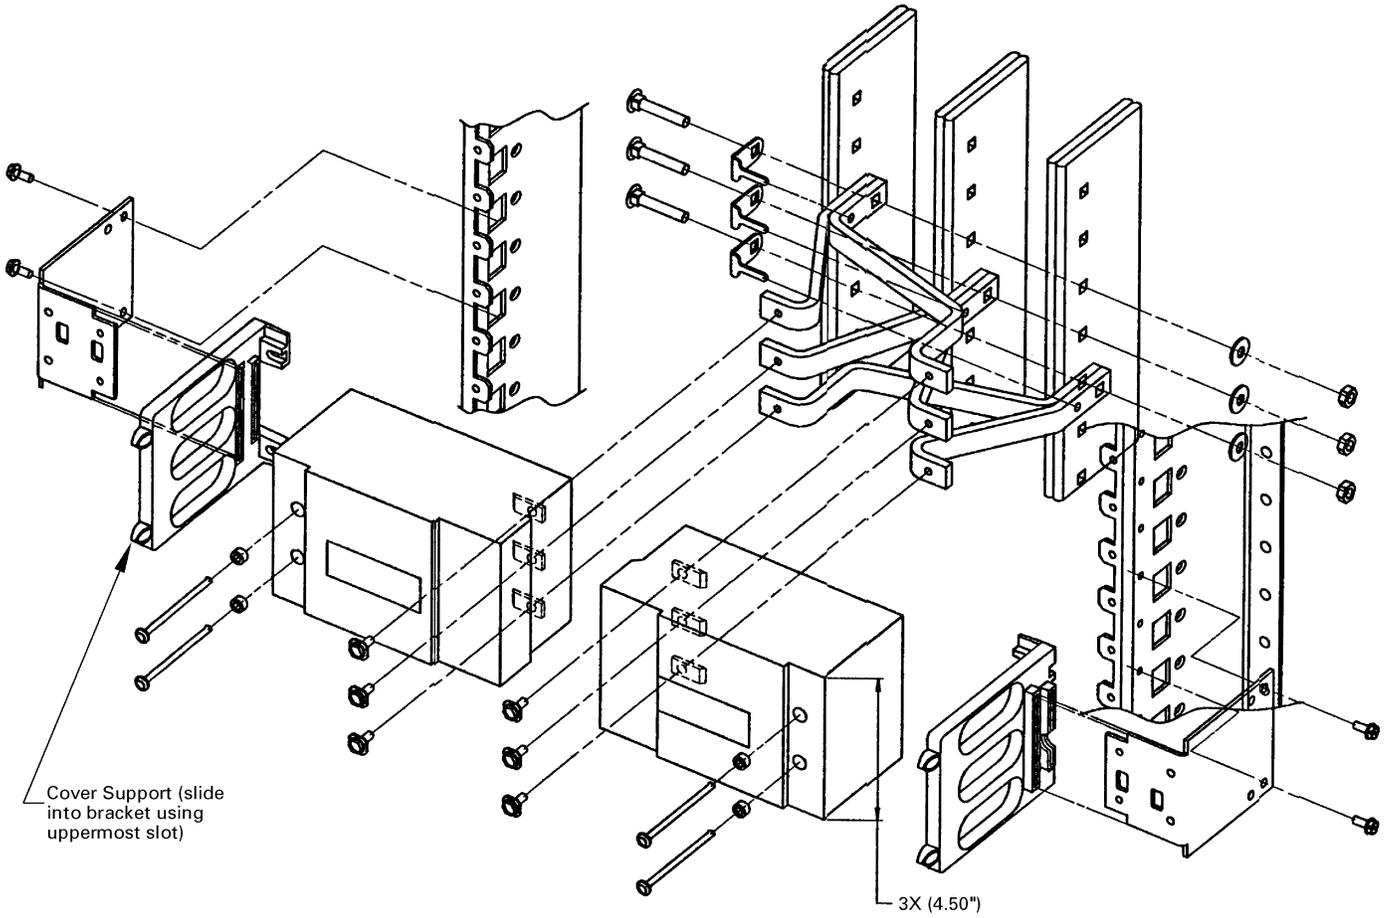

Figure 1. Bolt-on circuit breaker assembly exploded view.
- 1. Install Circuit Breaker Straps.** Install the straps beginning with the outermost (A and C) poles, as shown in Figure 1. Align the straps [1, 2] back to back, as shown. Slide the square hole in the antiturn clip [12] over the corresponding square shank of the carriage bolt [3], then insert the pin section of the clip through the circular hole in the strap assembly, with the carriage bolt extending through the square hole immediately below. Fasten the complete strap assembly loosely to the vertical bus, using a Belleville washer [4] and nut [5]. Repeat the procedure for the opposite pole, leaving 1.38 inches (1X) of space for the center pole (see Table 2 for one- and two-pole connection combinations). Align the center-pole straps [6] as shown and fasten them loosely to the vertical bus using the same clip, bolt, washer, and nut assembly.
- 2. Install Circuit Breaker Mounting Straps and Cover Supports.** Fasten the circuit breaker mounting brackets [7] to the panel side rails using the thread-forming screws [8] provided, as shown in Figure 1. Tighten the thread-forming screws to 25 inch-pounds. Using the uppermost slot on each cover support body, slide the cover supports (included in the circuit breaker cover kit), with their mounting tabs oriented inward, onto each bracket until they snap into place. The cover supports can be easily removed by inserting a screwdriver into the mounting slot on the underside of the mounting bracket assembly and gently prying downward while pushing off the cover support.
When installing the strap configurations in Table 2, be sure to use standard phase rotation, as required. For example, when connecting the first option in Table 2, connect pole A, followed by pole B moving down the vertical bus. When installing a two-pole and a three-pole breaker in the double-branch assembly, arrange the straps in the typical three-pole configuration as indicated in Figure 1. The AMCB4EB strap kit contains an alternate circuit breaker mounting bracket for installing type TEB or TED breakers in a four-pole, 2X (2 X 1.38 inches), double-branch assembly. Secure both breakers in each branch to the center hole in each mounting bracket and connect two of the three strap assemblies as desired, as in Table 2.